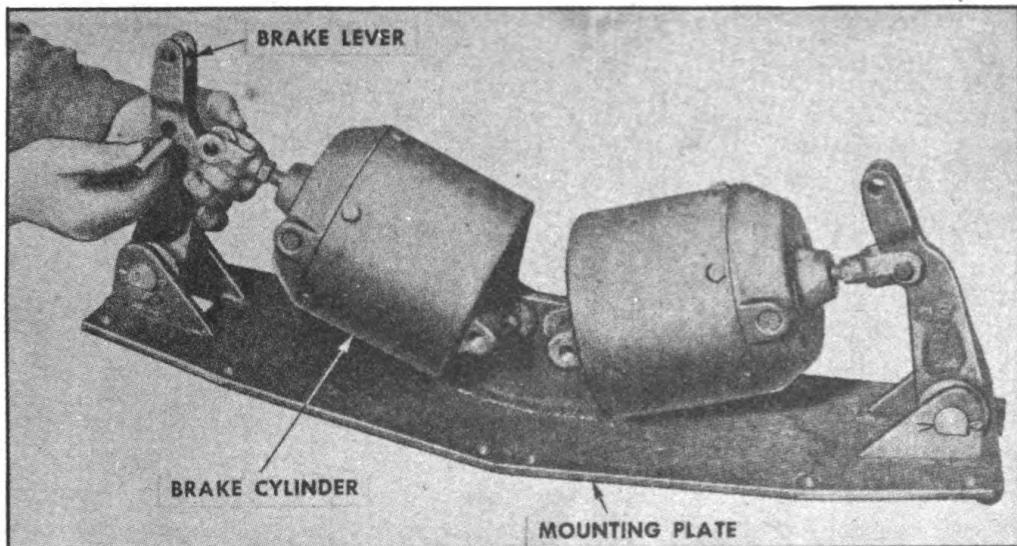

FIGURE 34. REMOVING CYLINDER FROM MOUNTING PLATE
(6) After brake mounting plate has been removed the brake cylinder may very easily be dismounted. Just remove the two clevis pins from brake lever and mounting bracket (Figure 34).
c. *Replacement.*—(1) Replacement of cylinder is in reverse of removal procedure.